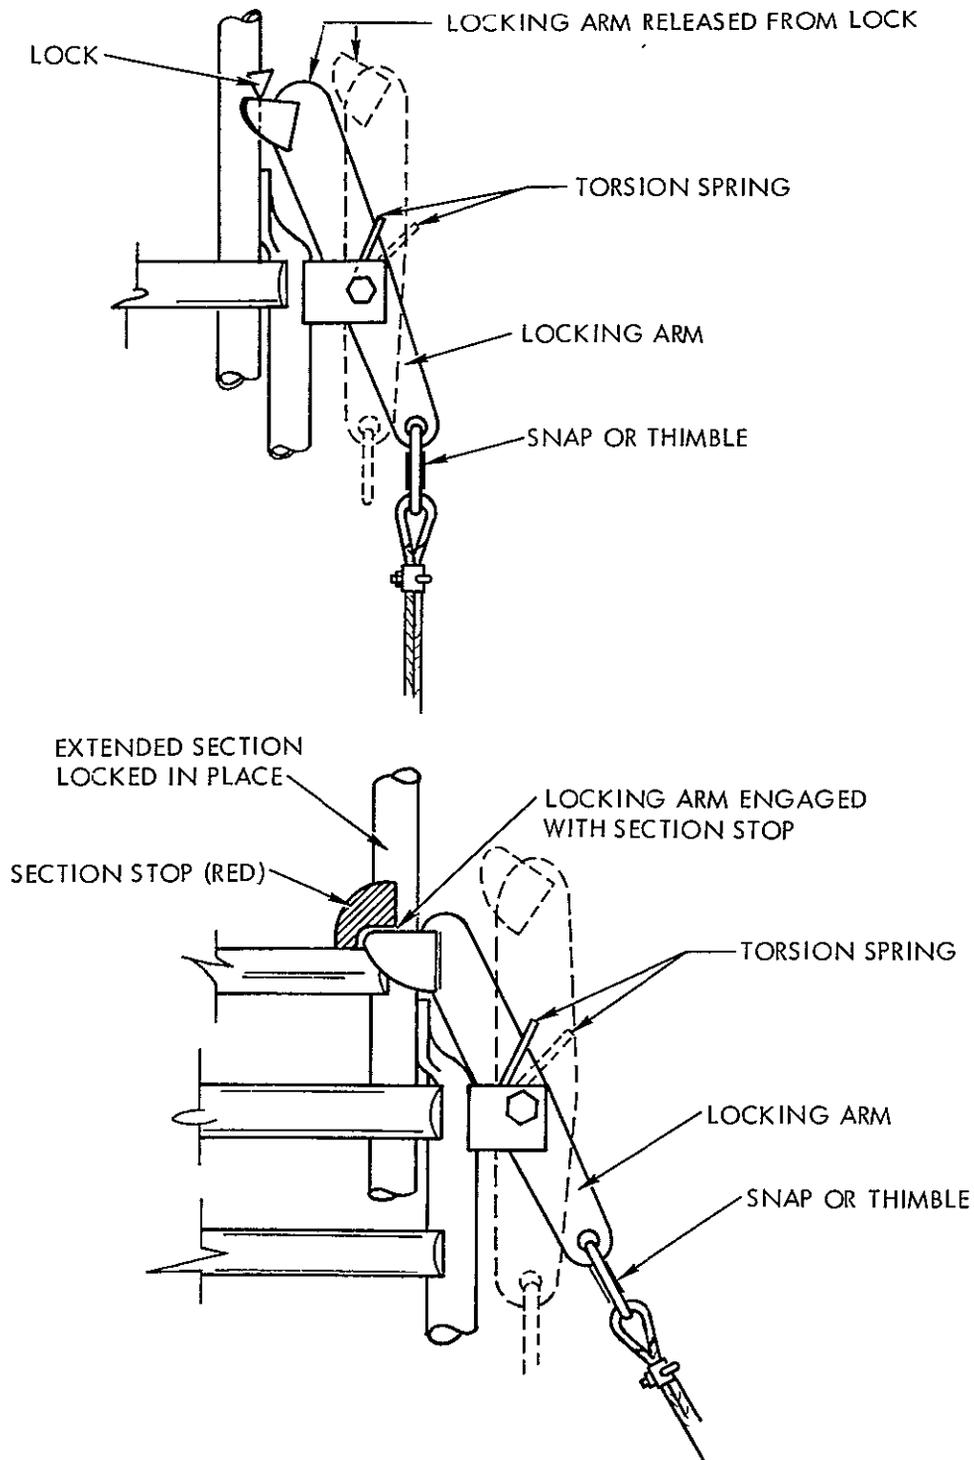

Fig. 4. Details of locking arm released from lock and engaged with section stop
- 7) Continue raising sections until the locking arm on the bottom section is raised and snaps in under the section stops (painted red), which are under the second section (Figs. 4 and 5).